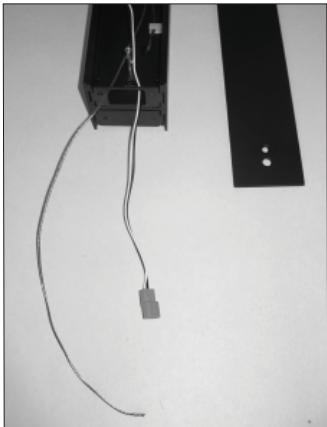

Figure 15
Step 10 Pull wires through hole in end of fixture and attach supplied orange disconnect to the wires. (Fig 15)